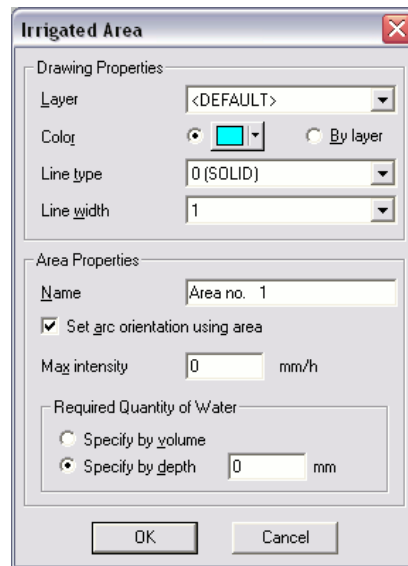

Figure 4-21
1. Double-click on the Area lasso (double-clicking does the same as *Modify/Change*). The *Area* dialog will appear. See Figure 4-21.
3. The required quantity of water to be applied can be expressed by volume (US gallons or litres) or depth (inches or mm). Select “Depth” and enter **0.08in (2mm)**. See Figure 4-21. Click [OK].